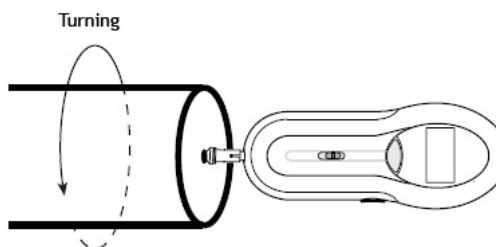

Figure 6
- c. Lightly press the rotating touch part against the center of the turning object (Figure 6), press and keep pressing the TEST button. Read the reading when it is stable.
- a. The rotating touch part must be placed at the center of the turning object to be tested. (Figure 6)